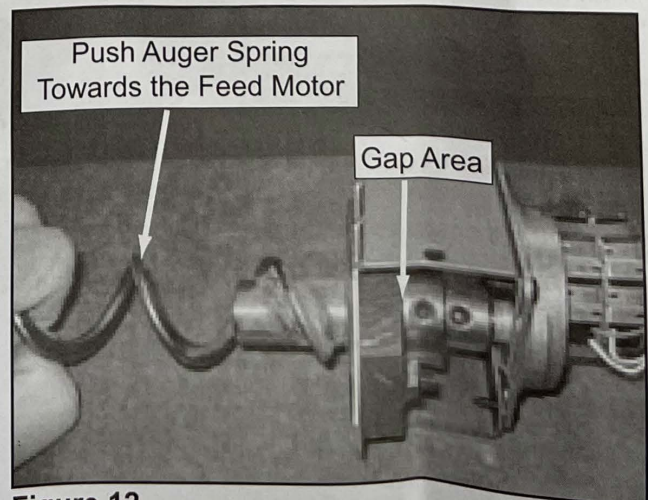

Figure 12
5. Push the auger spring towards the feed motor. The gap between the collar and plastic bearing should be just under a dime's width. **Figure 12.**